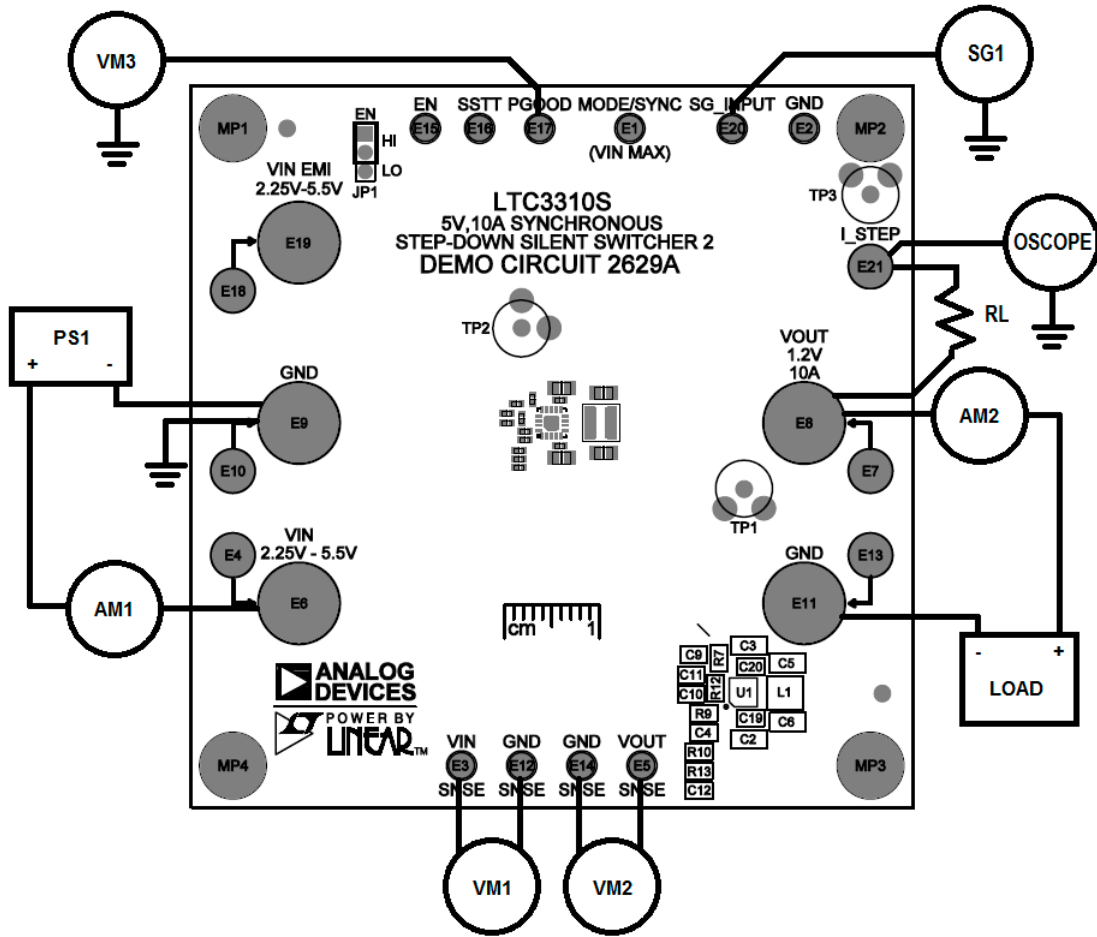

Figure 1. Test setup for the DC2629A Demo Board
Demonstration circuit 2629A is easy to set up and evaluate the performance of the LTC3310S. Refer to Figure 1 for proper measurement equipment setup and follow the procedure below:
NOTE: For accurate  $V_{IN}$ ,  $V_{OUT}$  and efficiency measurements, measure  $V_{IN}$  at the  $V_{IN}$  SNSE and GND SNSE turrets and  $V_{OUT}$  at the  $V_{OUT}$  SNSE and GND SNSE turrets as illustrated as VM1 and VM2 in Figure 1. When measuring the input or output voltage ripple, care must be taken to avoid a long ground lead on the oscilloscope probe. Measure the output voltage ripple by touching the probe tip directly across the output turrets or to TP1 as shown in Figure 2.
7. To test the transient response with a base load, add the desired resistor to produce a minimum load between  $V_{OUT}$  and I\_STEP turrets (RL shown on Figure 1). Note that the total load resistance will be RL plus R14 (100m $\Omega$ ). Adjust a signal generator with a 10ms period, 10% duty cycle and an amplitude from 1V to 2V to start.